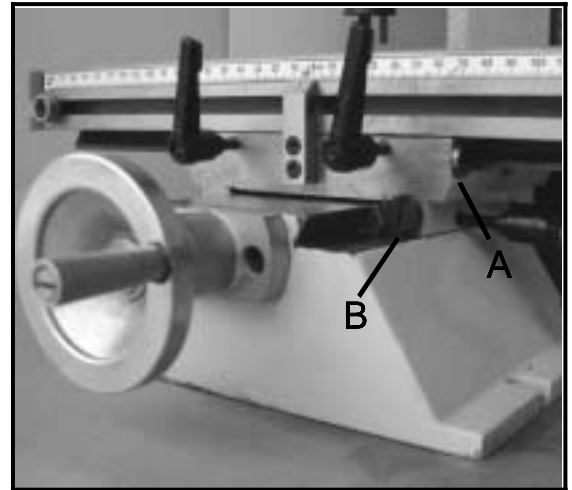
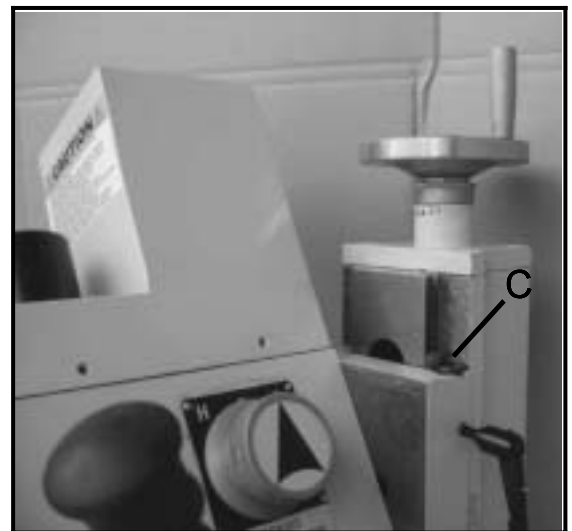

Fig. 17
Fig. 18
1. The horizontal gib adjustment screw (A, Fig.17) is found to the rear right on table. The traverse gib adjustment screw (B, Fig.17) is found on the right side of saddle under the table. The vertical gib adjustment screw (C, Fig.18) is found onto the column.